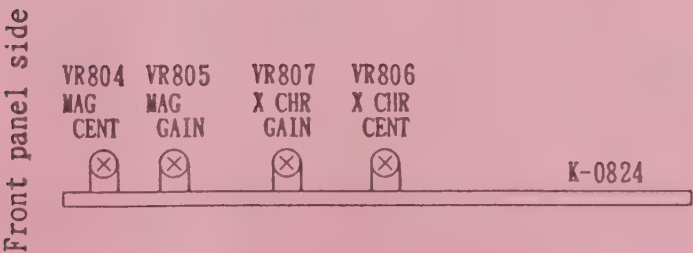

Fig. 8. Horizontal and Timing Axis Adjustments (Main Amplifier)
5. X AXIS CHR GAIN Adjustments (See Fig. 8)